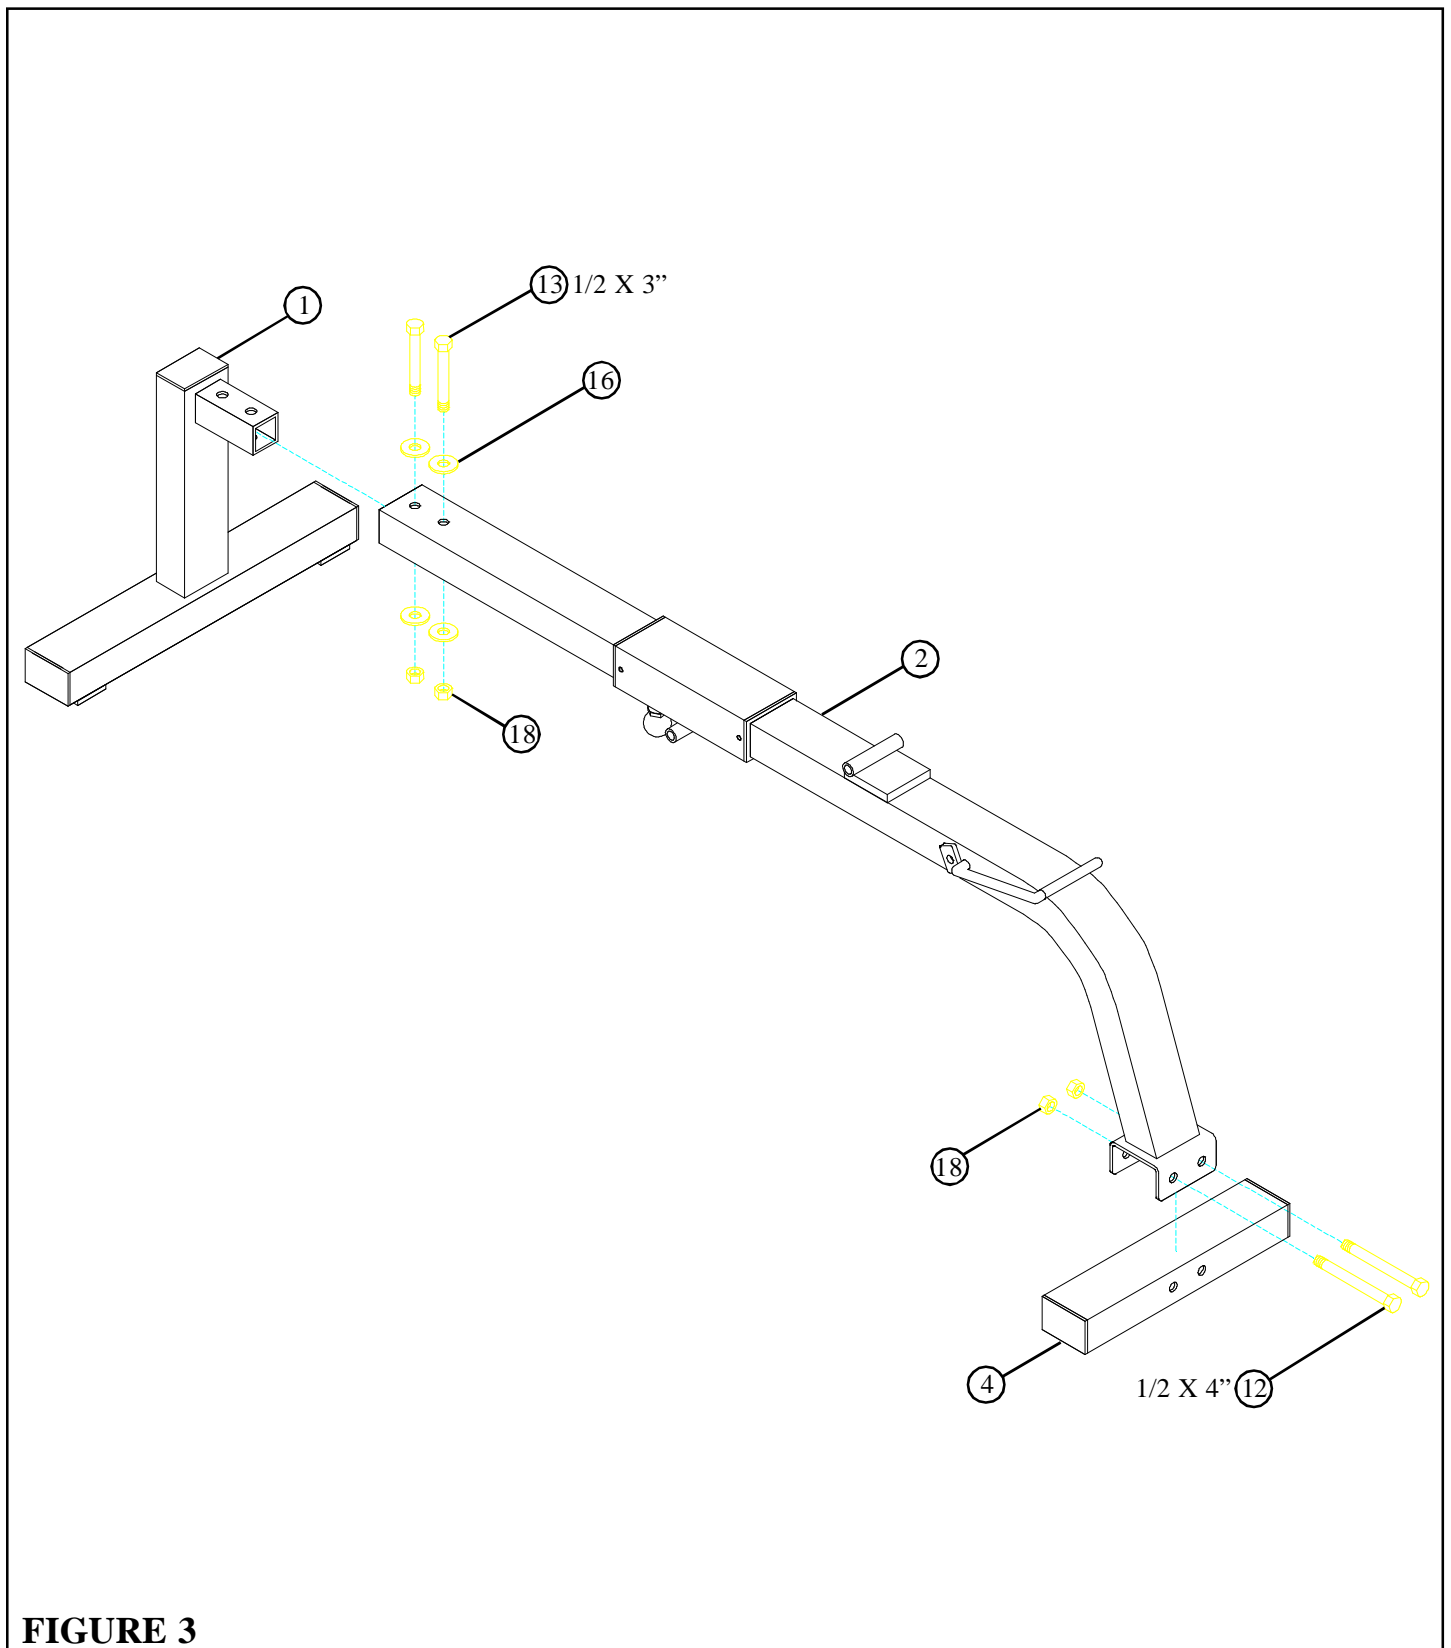

FIGURE 3
- **SECURELY** assemble the REAR UPRIGHT (1) to the BENCH FRAME (2) using two 1/2 X 3" BOLTS (13), four 1/2" WASHERS (16), and two 1/2" LOCK NUTS (18) as shown in FIGURE 3.
- **SECURELY** assemble the BASE TUBE (4) to the BENCH FRAME (2) using two 1/2 X 4" BOLTS (12) and two 1/2" LOCK NUTS (18) as shown in FIGURE 3.